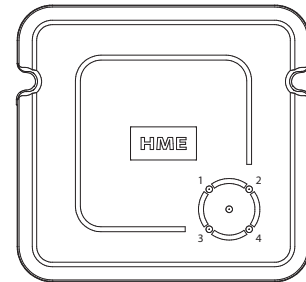

Fig. 1.3
- **Remote Transceiver:** This device facilitates wireless communication between the headsets and the Base Station. Up to four Remote Transceivers can be connected to a Base Station (additional Transceivers extend range to provide greater coverage in larger premises). (Fig. 1.3.)